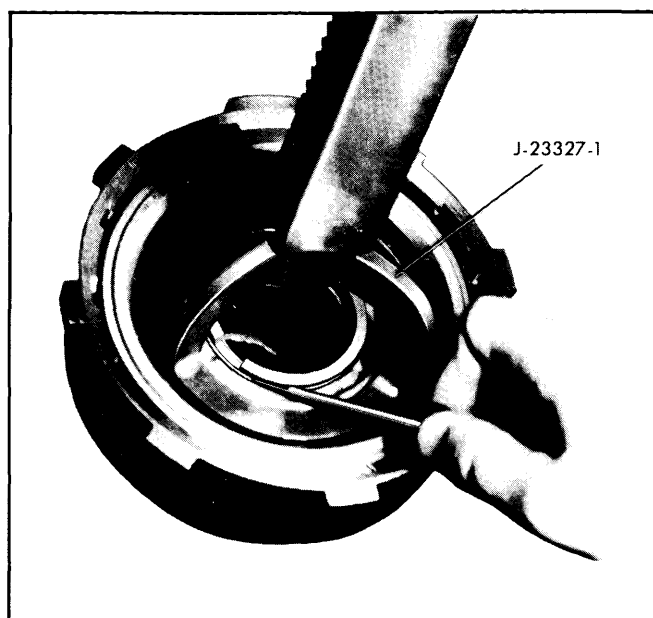

Fig. 7-72—Compressing Direct Clutch Spring Seat
3. Using Compressor Tool J-23327-1, remove direct clutch piston return spring seat retaining ring, spring seat and (17) clutch return coil springs. (Fig. 7-72)